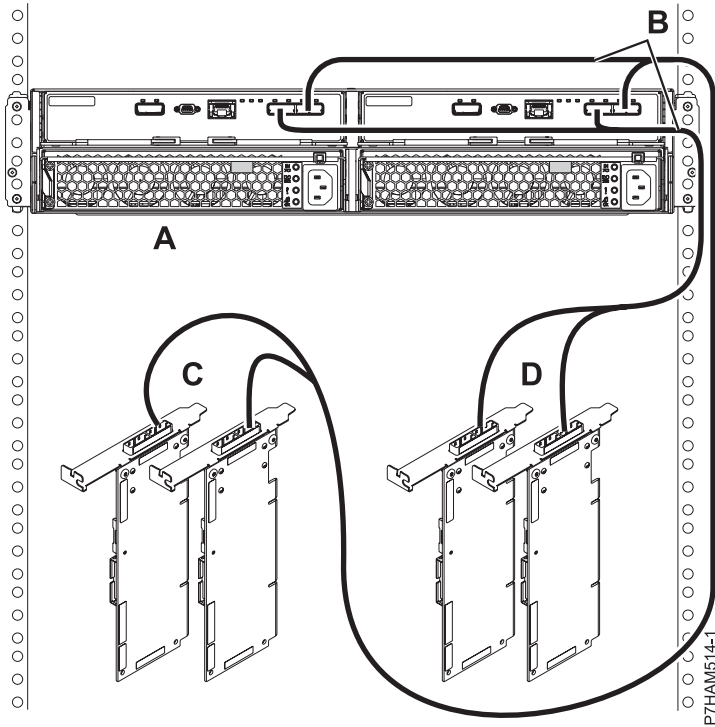

Figure 41. Mode 2 connection of one 5887 disk drive enclosure by using X cables to two SAS adapter pairs
18. Perform the mode 2 connection of one enclosure (A) by using X cables (B) to two SAS adapter pairs. See Figure 41 on page 41.